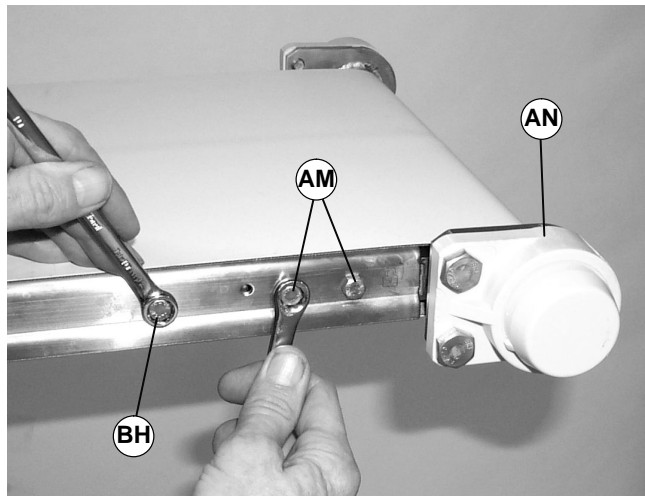

Figure 33
1. On tension end of the conveyor, loosen two M6 hex head cap screws (AM of Figure 33) on each side of conveyor.